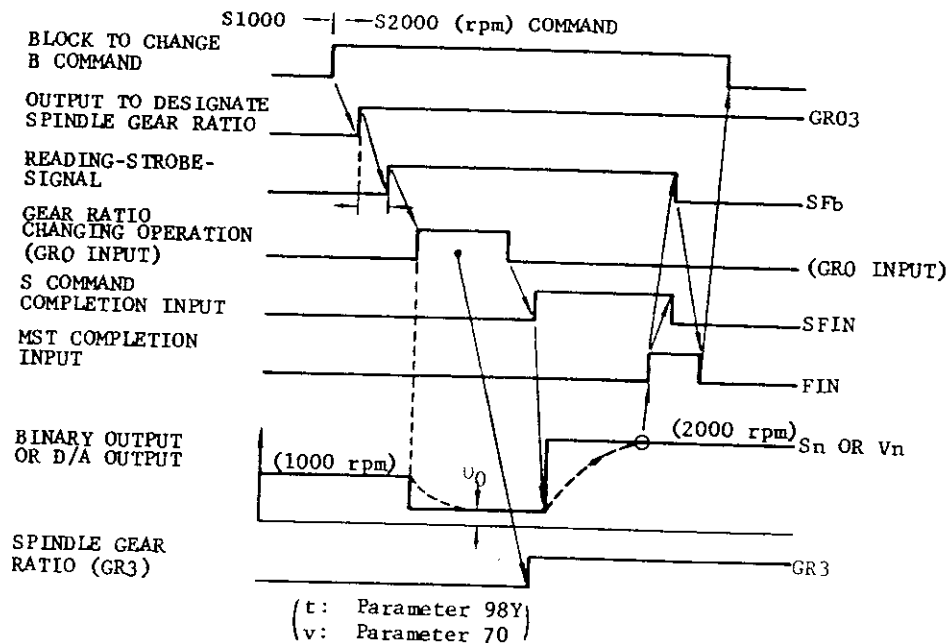

Fig. 1.8
- When GR0 input is not turned on, S command output of the previous block (1000 rpm in Fig. 1.8) is retained until SFIN signal is turned on.